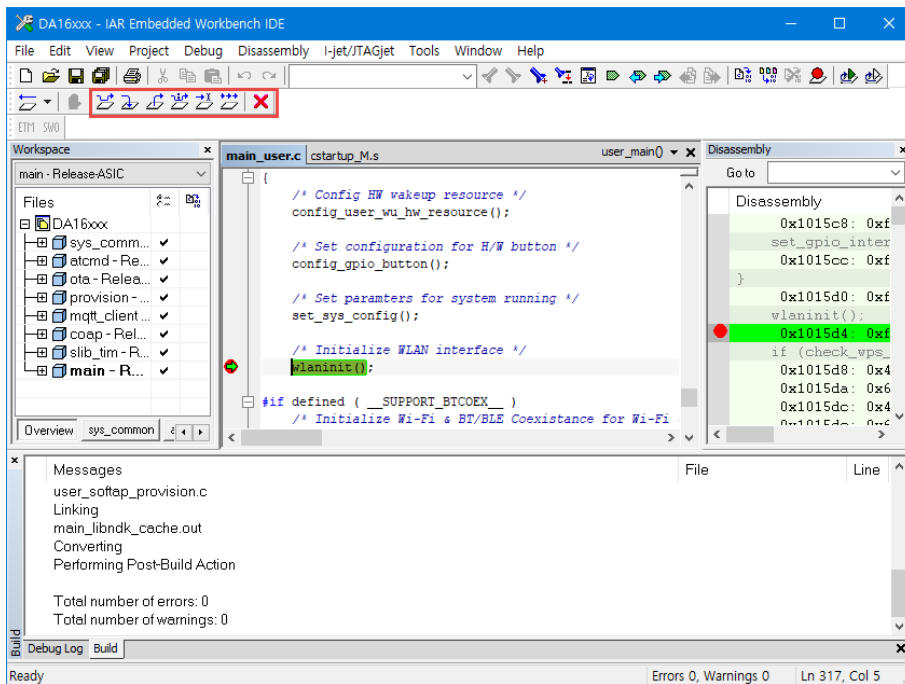

Figure 37: Break Point Window
7. Pause Window on Break Pointer. See Figure 37.